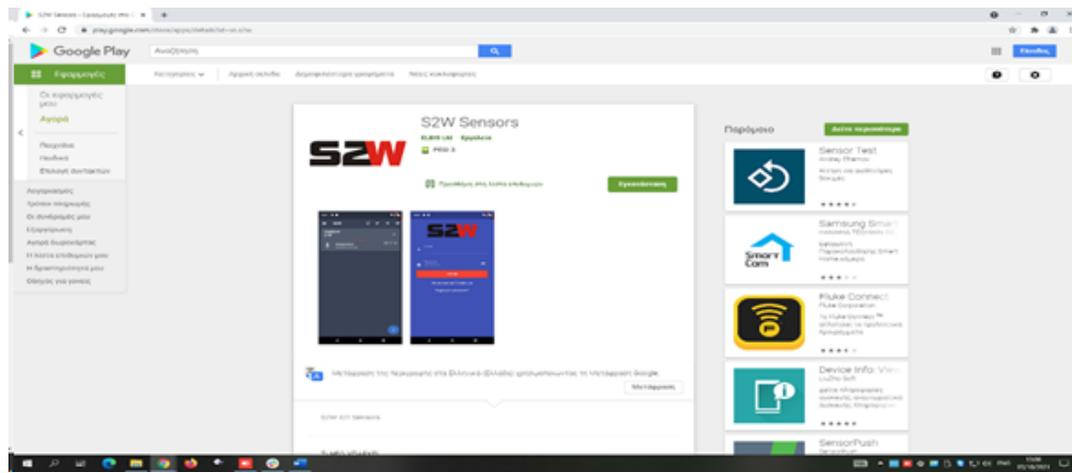

Figure 15
1. <https://play.google.com/store/apps/details?id=io.s2w> (Figure 15)